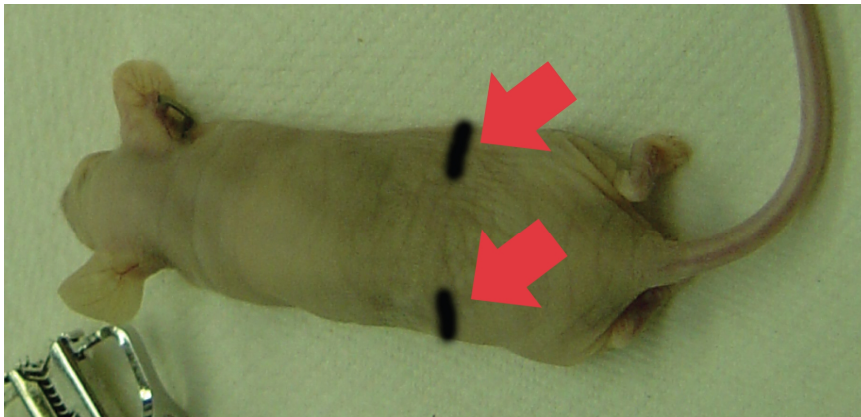

Figure 4. Location of Incision.
9. Incision should be made on the dorsal-lateral surface of a nude mouse, approximately 1 cm above the hip-socket; see Figure 4. Start by pinching back the skin and making a small cut using dissecting scissors. Then extend cut to 1 cm in length, being careful not to puncture underlying tissues.